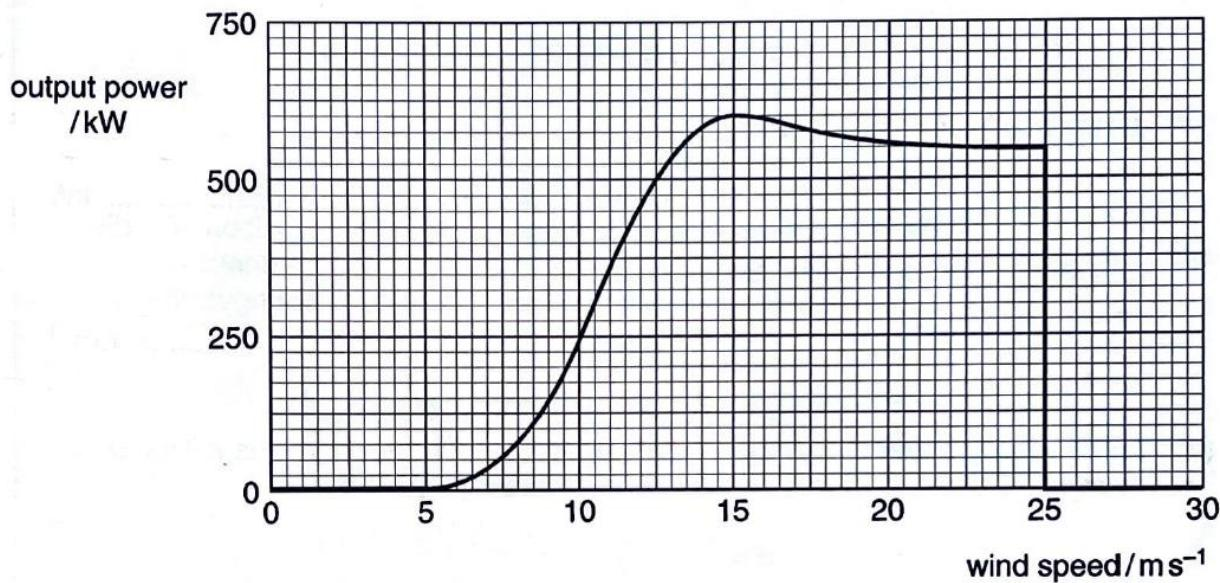

Fig. 8.3
Some information provide by a manufacturer of wind turbines are given in Fig. 8.3.
1. Use Fig. 8.3 to determine this cut-out speed.